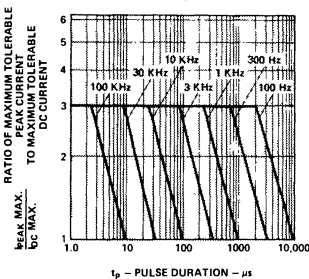

Figure 5. Maximum Tolerable Peak Current vs. Pulse Duration. ( $I_{DC}$  MAX as per MAX Ratings)
- See Figure 5 (Red/Orange), 10 (Yellow) or 15 (Green/Emerald Green) to establish pulsed operating conditions.